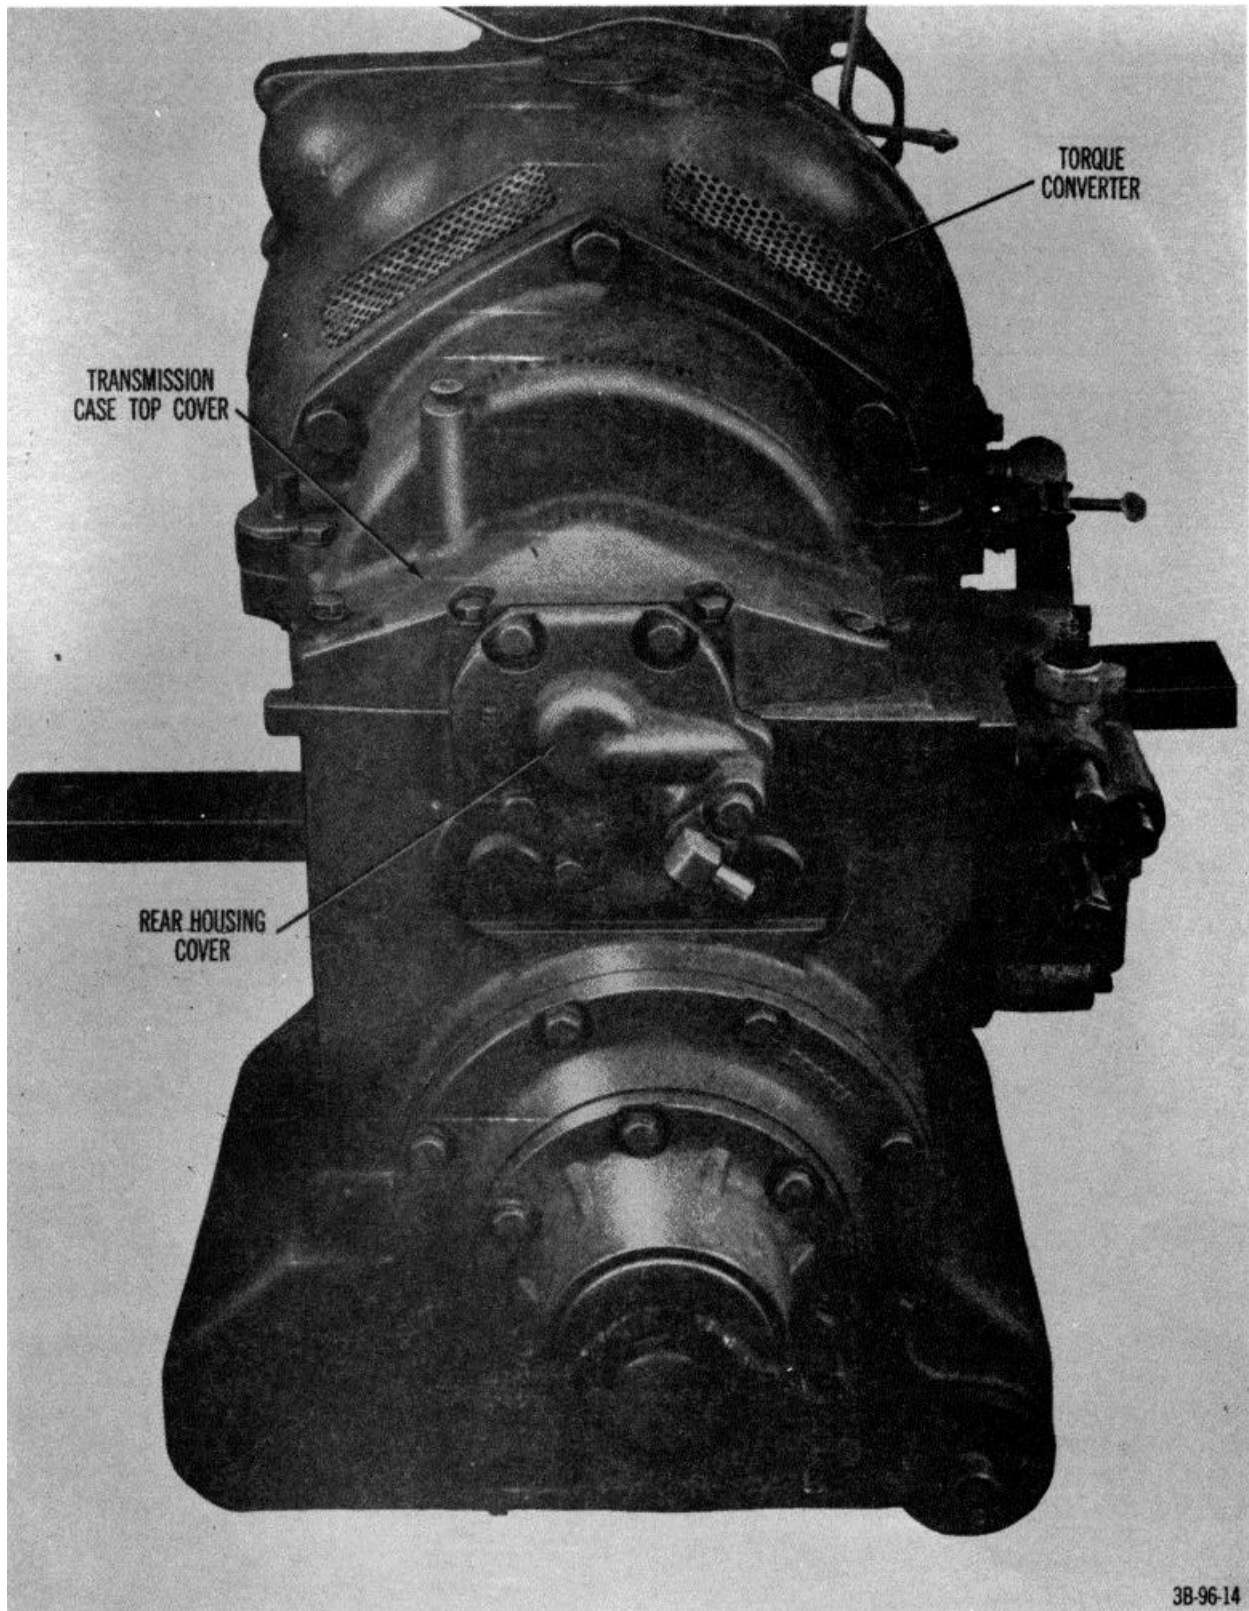

Figure 26. Front view of transmission, attached to torque converter.
- (10) Fabricate a spacer. Using the fabricated spacer and the nut removed from the taper pin, remove the taper pin from the transmission case top cover (fig. 26).
- (11) Remove capscrews that secure rear housing cover bearing cap to transmission and remove housing cover and gasket.
- (12) Remove capscrews and lockwashers that secure transmission case top cover (fig. 26) to transmission. Remove the capscrews and lockwashers that secure the top cover to the torque converter housing and remove top cover.